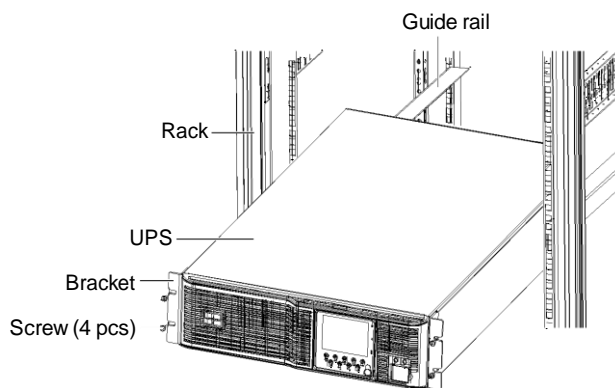

Figure 2-4 Installing the UPS
2. Place the UPS on the guide rails in the rack, and push it completely into the rack. Take out four M6\*16 screws to fix the UPS on the rack through brackets, as shown in Figure 2-4.